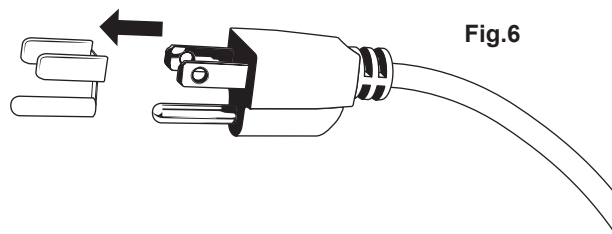

Fig. 6
3. Installation is now complete. Remove plug cover (**Fig. 6**). Plug the fixture in.